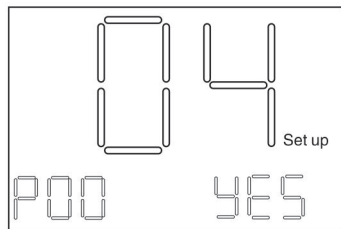

figure 5
1. Input 4mA correction, 2. Input 20mA correction, 3. Close direction. 4. Location of letter loss. 1. Input 4mA calibration (calibration range: 3.8-4.5mA) After entering the menu, the first internal control parameter is displayed. The display interface is shown in Figure 5: "04" flickers in the half of the screen; internal control parameters are displayed in the lower left corner. The label is "P00". The lower right corner shows "NO". At this point, the standard 4mA control current is input to the control unit, and it is set for several seconds. After stabilization, pressing the down key of the remote control can be changed from "NO" to "YES". Press the remote control confirmation key to confirm that the current input current is 0%. Location. If the settings are successful, "LF" no longer flickers, fixed display "LF" 3 seconds later, automatically jump to the next control parameter; if not set Successfully, automatically jump to the next control parameter.